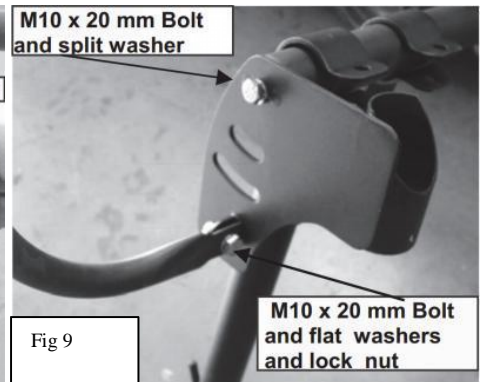

Fig 9
Push the Quick Disconnect Cross bar bracket into the holes in the Rear side rail and attach the plate to the rail using the supplied M 10 x 25 mm hex head bolt and split washer. Attach the Siderail grab handle to the tab on the Quick Disconnect Mounting plate using the supplied M10 x 25 mm hex head bolt (2) washers and lock nut. (Fig 9)